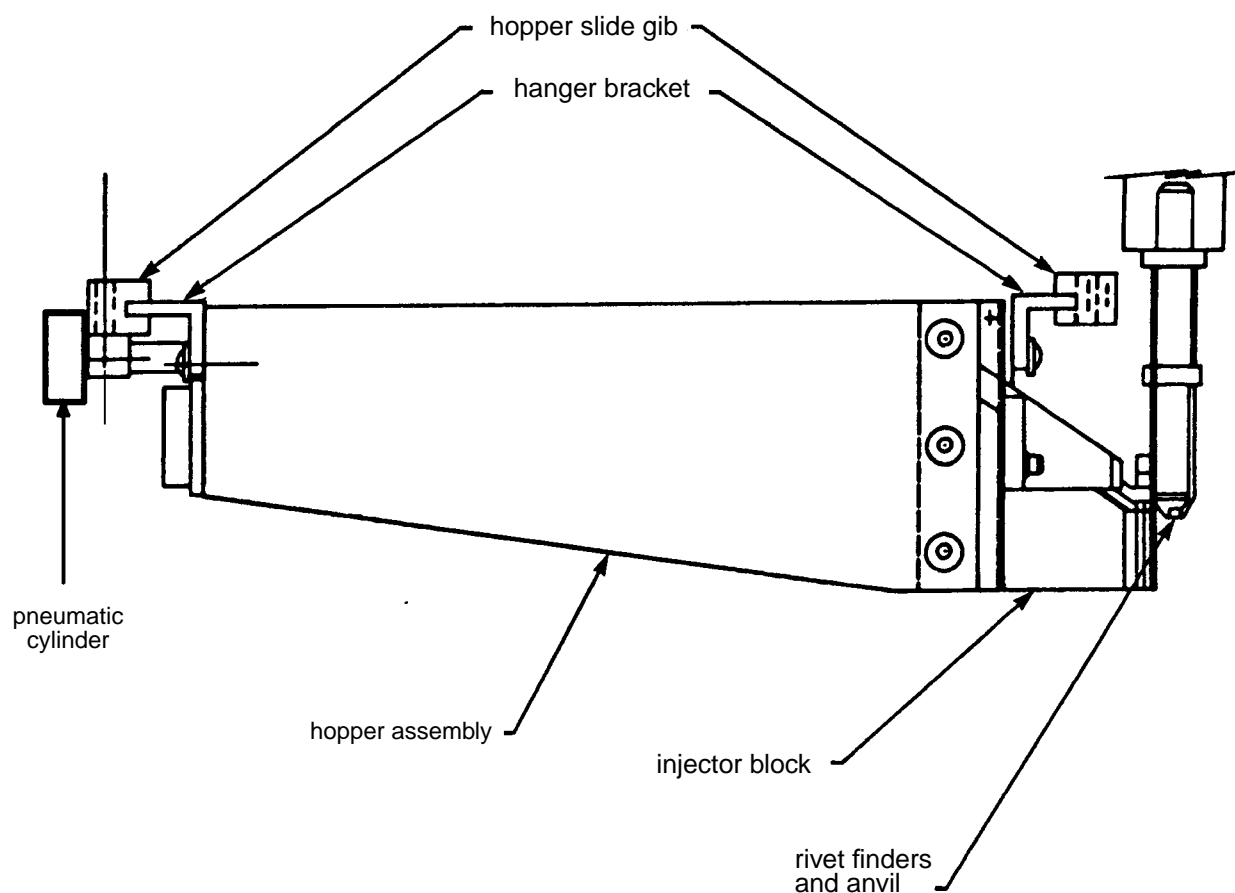

Figure 4 - Maxi-Hopper Installation
5.2.1 The maxi-hoppers (applicable for models CE3994 and CE4922 only) are colour coded to various rivet sizes, provide storage of rivets and inject them into the rivet fingers (see Figure 4). Refer to Table 1 for the colour coded maxi-hopper legend. Install maxi-hoppers as follows: